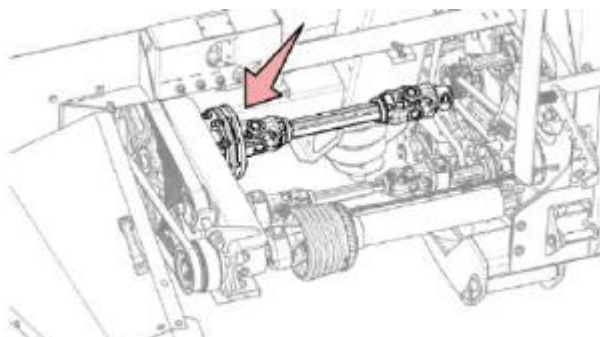

Figure 1
- With the header on the combine open the left-hand shield to expose the clutch, Figure 1.